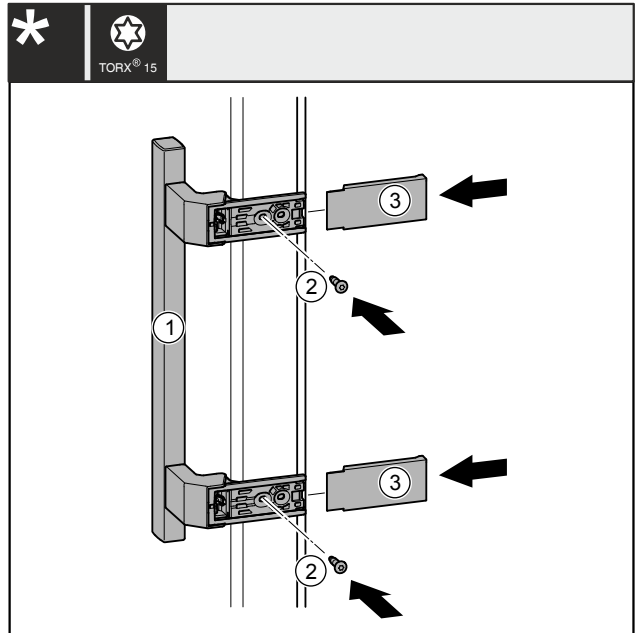

Fig. 28
- Place the handle Fig. 28 (1) on the opposite side.
- Tighten screws Fig. 28 (2) with screwdriver.
- Position the covers Fig. 28 (3) on the side and slide them on so that they click into place.